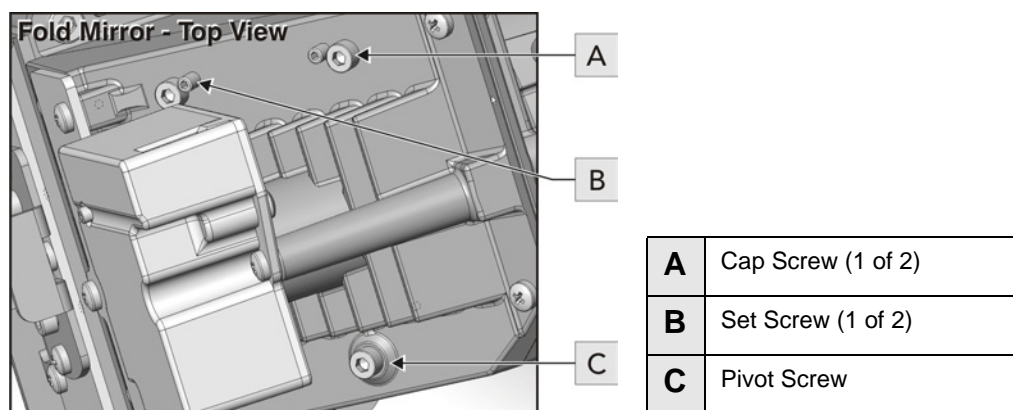

Figure 4-5 Fold Mirror Adjustment
1. Unlock the two set screws (**Figure 4-5/B**).
2. Turn the pivot screw 90-180° (**Figure 4-5/C**).
3. Adjust both cap screws (**Figure 4-5/A**).